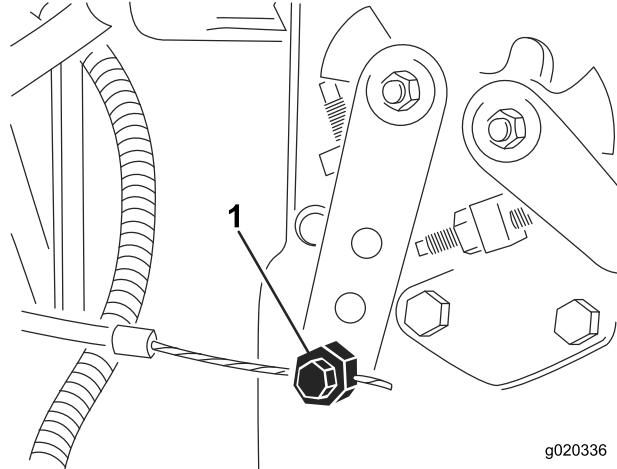

Figure 78
- Loosen the throttle-cable connector on the injection-pump lever arm (Figure 78).